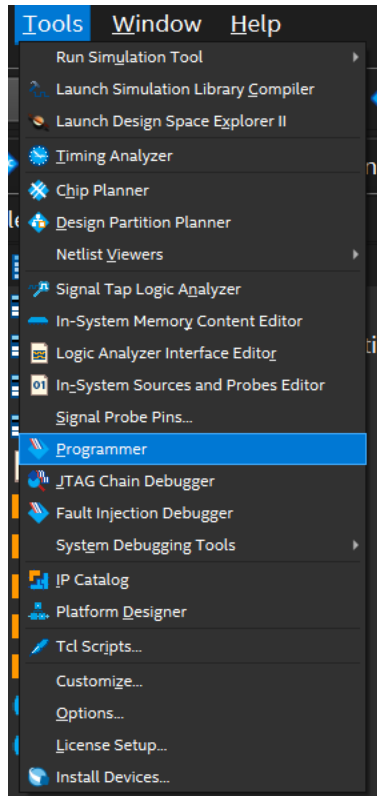

Figure 14. Access to Programmer
31. In the top menu, select **Tools → Programmer**, as shown in Figure 14